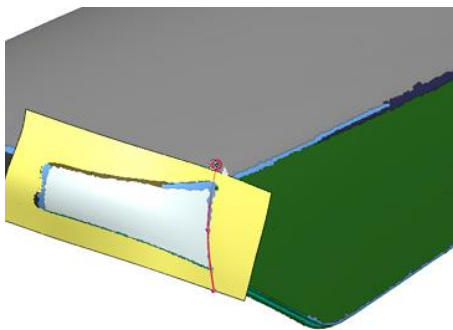

Figure 210
- Draw a Spline on the Mesh Fit3 surface body (**Figure 210**).